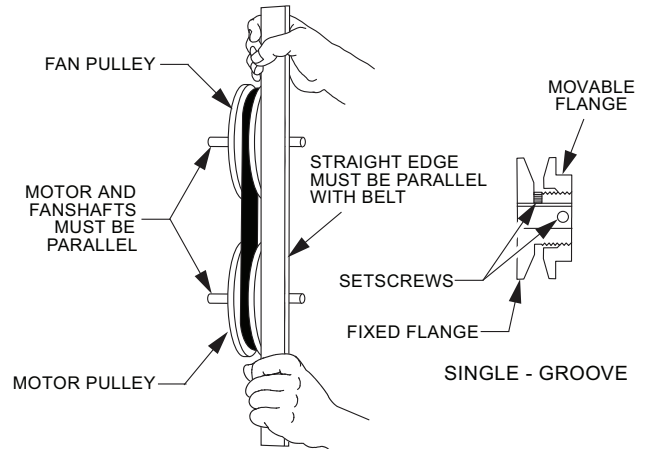

Fig. 6 — Supply-Fan Pulley Adjustment
5. Ensure the fan shaft and the motor shaft are parallel prior to tightening motor mounting nuts. See Fig. 6.
6. Check the alignment of the pulleys and adjust if necessary. See Fig. 6.
The motor pulley is an adjustable-pitch type that allows a servicer to implement changes in the fan wheel speed to match as-installed ductwork systems. The pulley consists of a fixed flange side that faces the motor (secured to the motor shaft) and a movable flange side that can be rotated around the fixed flange side that increases or reduces the pitch diameter of this driver pulley. See Fig. 6.
3. Loosen movable pulley flange setscrew. See Fig. 6.
2. Slide fan pulley along fan shaft. Make angular alignment by loosening motor from mounting. See Fig. 6.
26. Align the motor pulley and blower wheel pulley using a straight edge. See Fig. 6.